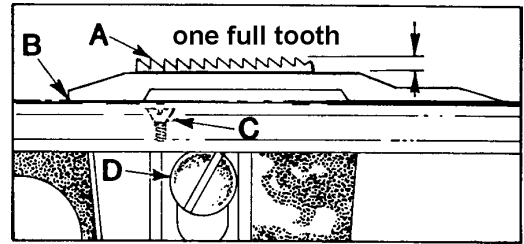

Fig. 10
Feed dog (A, Fig. 10) should be centered in throat plate (B) with equal clearance on all sides and ends with feed travel set to desired stitch length. At highest point of travel, tips of feed dog teeth should extend the depth of one full tooth + 1/32 inch, above throat plate and parallel to same. Loosen screw (D), which secures feed dog in position, and adjust screw (C) up or down to support feed dog. Retighten screw (D).